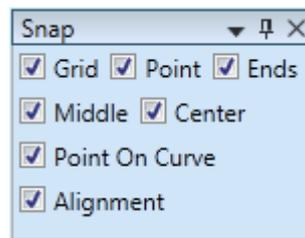

Figure 9. Snapping options.
- The construction of a line or other geometries can further be enhanced by using the snapping facilities. Figure 9 shows the various snapping options available in GeoFEA®. These snapping options can be accessed from bottom-right corner of the window.